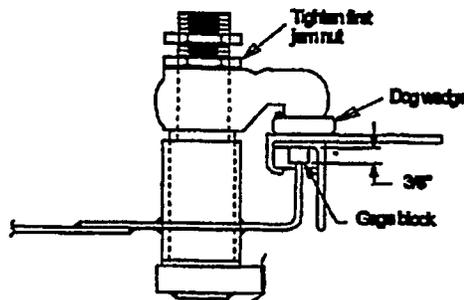

Figure 600-2.48. Dog Adjustment without Gasket Installed
- e. Tighten the first jamnut or self-locking nut down until the knife-edge hits hard against the 3/8-inch thick gauge block. See figure 600-2.48.